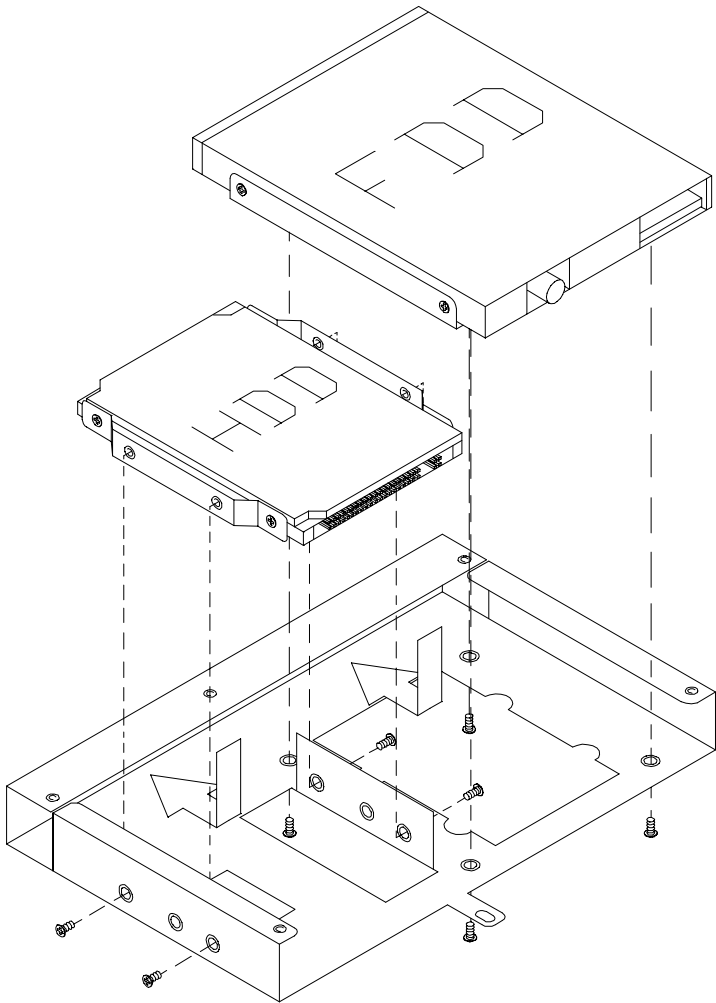

Figure 2-6: Removing the HDD/FDD bracket screws
6. Remove the four screws in the bottom of the HDD-FDD bracket (see Fig. 2-6).
9. Fasten the four screws in the bottom of the HDD-FDD bracket (see Fig. 2-6).